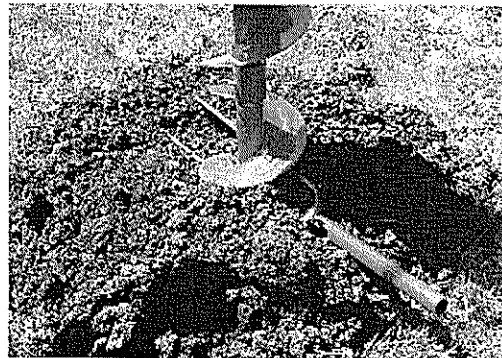
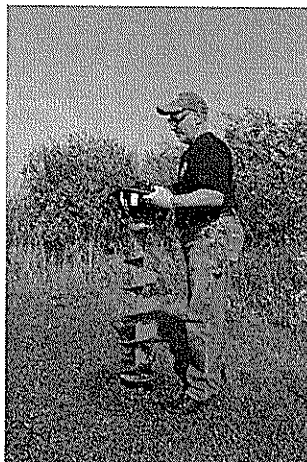

FIGURE 13
FIGURE 12
32. Lift auger extension/auger/Hole Digger up far enough out of hole so bottom end of auger extension is clear. FIGURE 12. Block remaining auger with auger fork to prevent falling back into hole. An additional person will usually be required. FIGURE 13